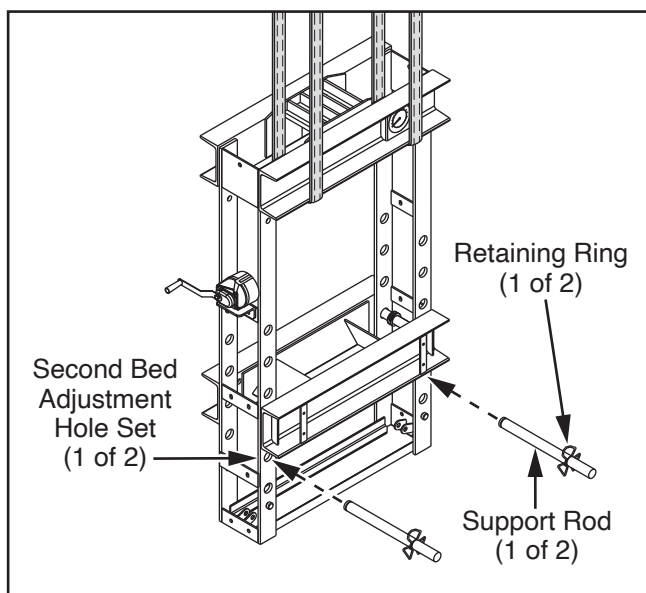
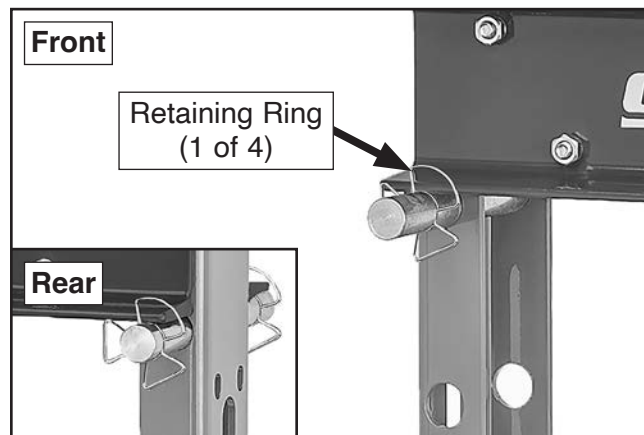

Figure 7. Bed raised above second set of bed adjustment holes.
Figure 8. Example of retaining rings on support rods.
8. Rotate winch handle clockwise to raise bed above second set of bed adjustment holes from the bottom (see **Figure 7**).
9. Install (1) retaining ring on front groove in each support rod (see **Figure 7**).
Note: Retaining ring groove closest to end of support rod should be positioned at rear of machine (see **Figure 7**). This provides a "handle" on front of support rods.
10. Insert (2) support rods through bed adjustment holes (see **Figure 7**), and install (1) retaining ring on rear groove in each support rod to secure (see **Figure 8**).